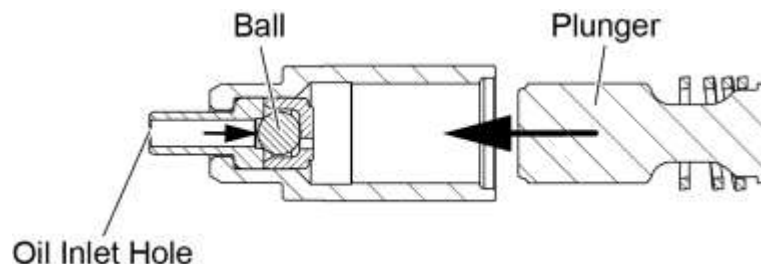

Figure 72
(1) Clean and lightly coat the lifter parts with engine oil before assembly.
(2) To assemble the unit, unseat the ball (Figure 72) by inserting a thin clean bronze wire through the oil inlet hole.